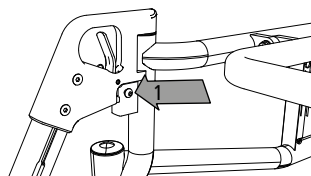

Fig. 5
2. Once they are locked into position, the leg rests should be fitted backlash-free. If necessary, you can carefully tighten the side Allen screw (1, Fig. 5) until the free-play on the leg supports is reduced to a minimum.